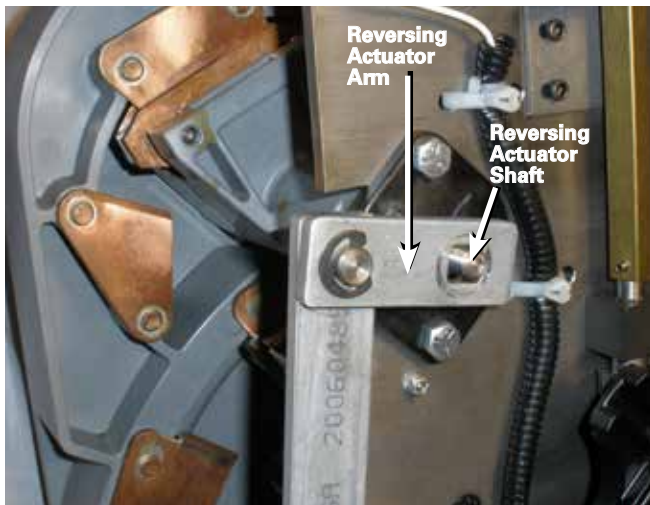

Figure 3. Removal of actuator arm.
2. Lift outward on the reversing actuator arm and remove it from the reversing movable contact bushing. The reversing actuator shaft may be tapped in to allow clearance to remove the arm. See Figures 3 and 4.